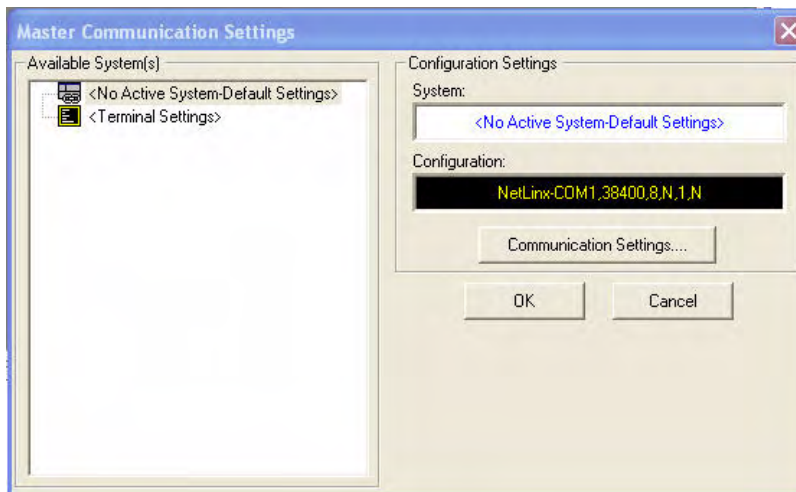

FIG. 40 Master Communications Settings dialog box
2. In NetLinx Studio, select **Settings > Master Communication Settings** from the *Main* menu to open the *Master Communication Settings* dialog (FIG. 40).